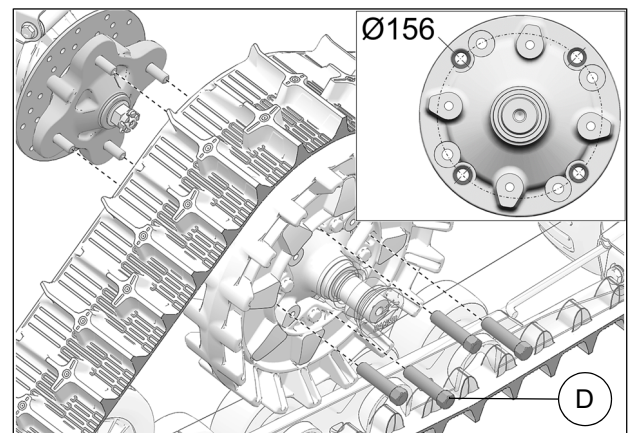

Fig. 8
8. Secure undercarriage to rear hub using the provided M12 lug nuts (D). Use bolt circle Ø156 mm. See Fig. 8